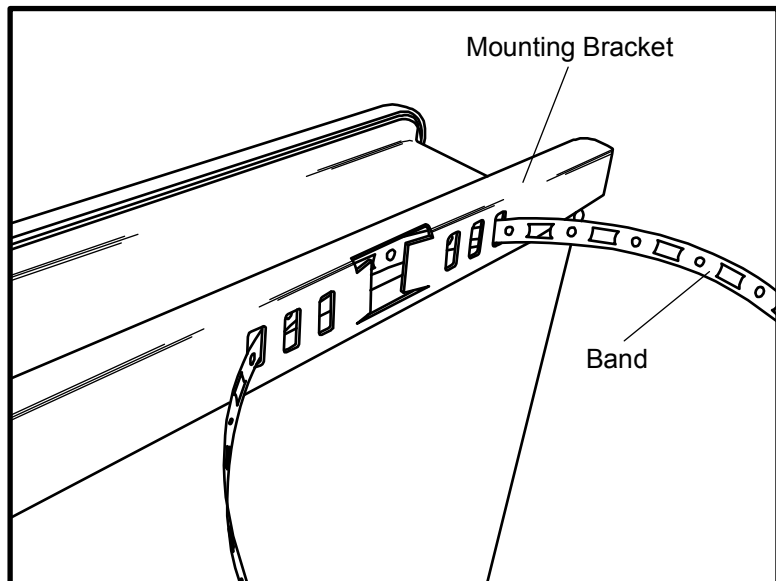

FIGURE 4-13. Inserting the Metal Band
2. Feed a metal band through the openings in each bracket as shown in Figure 4-13. Use the closest set of holes for smaller poles and the farthest set of holes for larger poles.